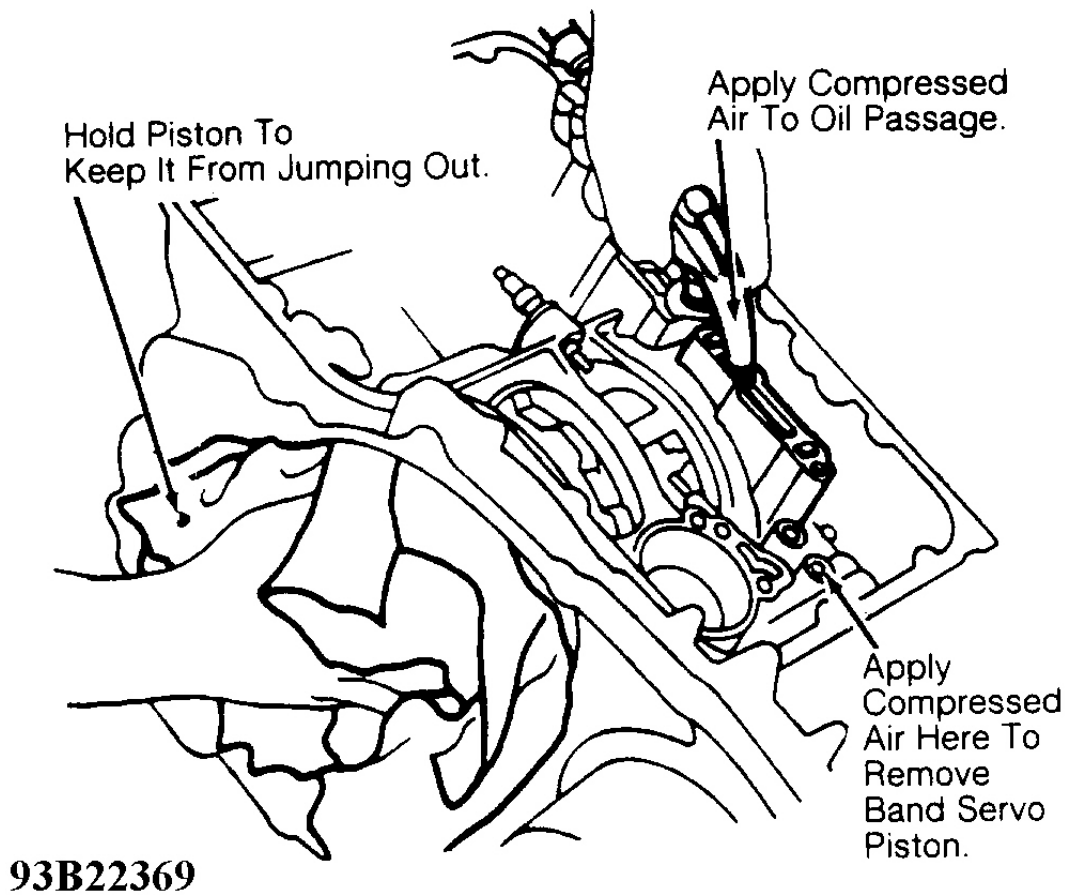

Fig. 8: Removing Low-Reverse Brake Piston & Band Servo Piston
11. Pull out parking pawl shaft. Remove parking pawl and return spring. Remove low-reverse brake retainer. Apply compressed air to oil passage to remove low-reverse brake piston. Hold piston to prevent it from jumping out. See **Fig. 8**.